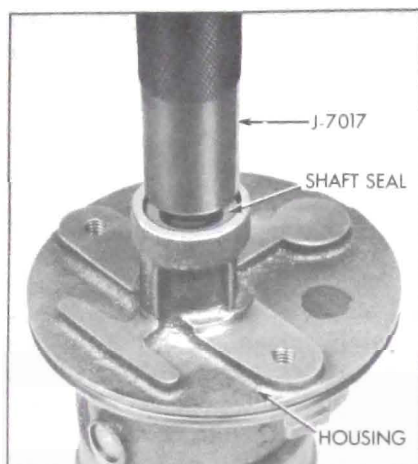

Figure 8-62—Installing Shaft Seal
2. If shaft seal was removed, use Installer J-7017 to drive new seal into housing with spring side of seal toward housing. See Figure 8-62. Just bottom seal in housing.